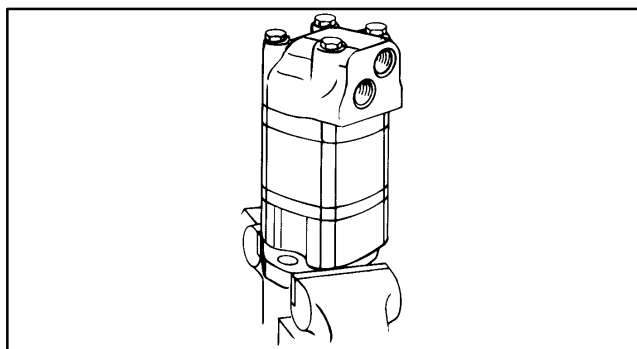

Figure 67
23. Clamp housing in vise, see Fig. 67.